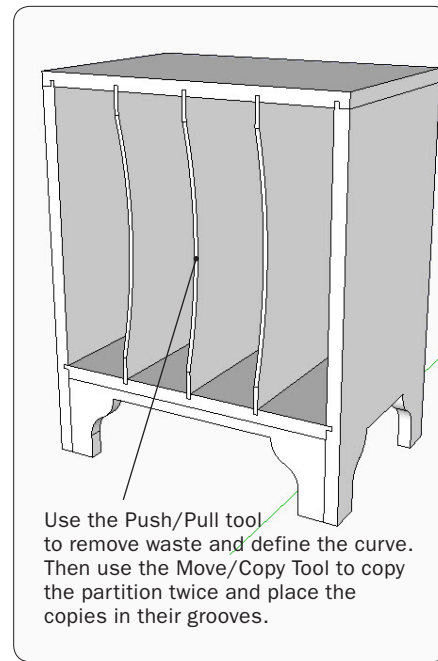

Figure 18. Complete and copy the partition.
Step 15 Use the Push/Pull Tool to create the arc cutout in the partition. Use the Move/Copy Tool to make two copies of the partition and place them in their grooves (Figure 18).